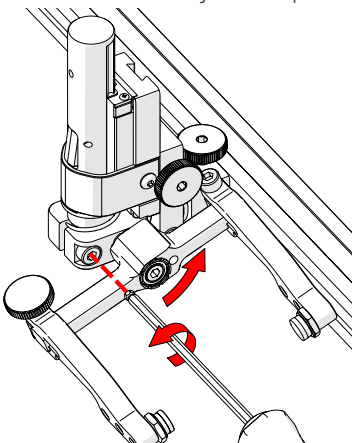

Fig. 87 - Loosen 3 mm screw
- Using the supplied 3 mm hex driver loosen the transverse adjustment screw (Fig. 87) and rotate the yoke about the vertical shaft achieving the desired angle.